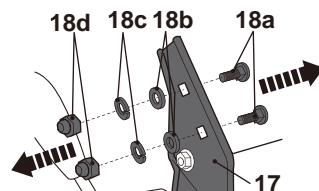

Fig. 1
1. Remove the mounting sets (18) from the handle supports (17) and keep them handy (Fig. 1).